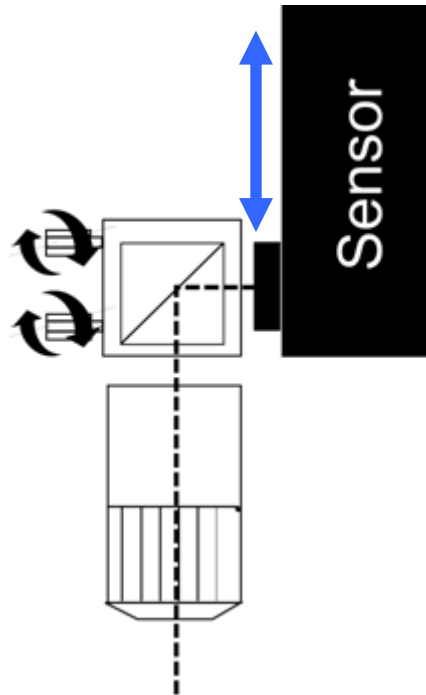
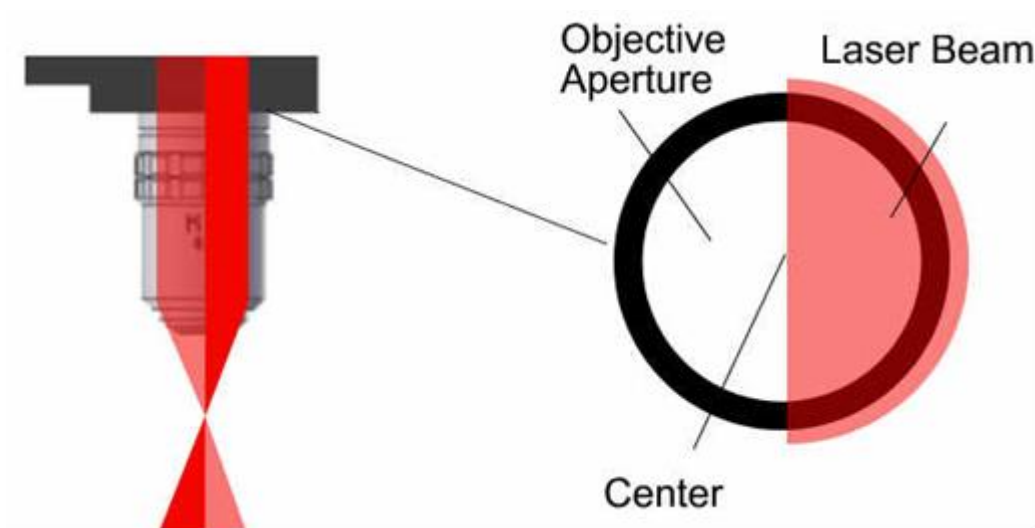

Figure 8
Figure 9
3. Move the sensor housing on the mounting (Figure 8) , such that exactly half of the objective lens aperture is covered by the sensor's laser beam (Figure 9). The laser should NOT cover more than half of the aperture.
This may change the beam position in the Aperture (Figure 8) so that you may have to repeat steps 3-5 until beam position (Figure 9) is correct and the beam is perpendicular.